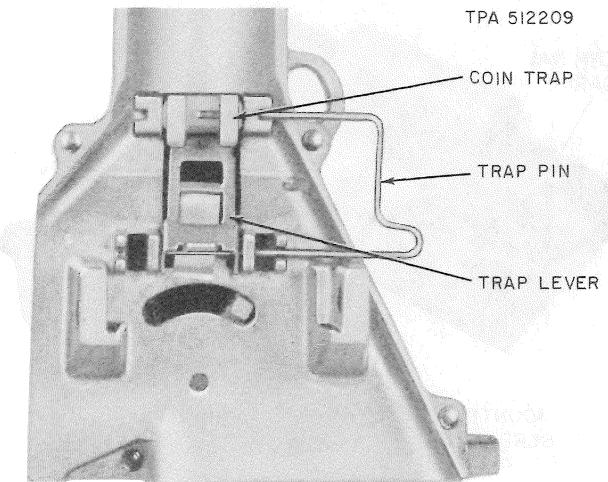

Fig. 50—Placing Coin Trap in Hopper
- (2) Insert coin trap in hopper and engage pin in trap (Fig. 50).